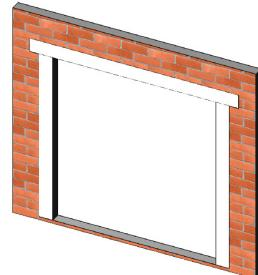

Figure 14:
2. At each jamb, embed the flashing paper into the sealant onto mounting flange and fasten into place. The flashing paper should be cut sufficiently long enough to extend at least 3 in. past the weep-screed or diado flashing and at least 6 inches above the head of the window (Figure 14).